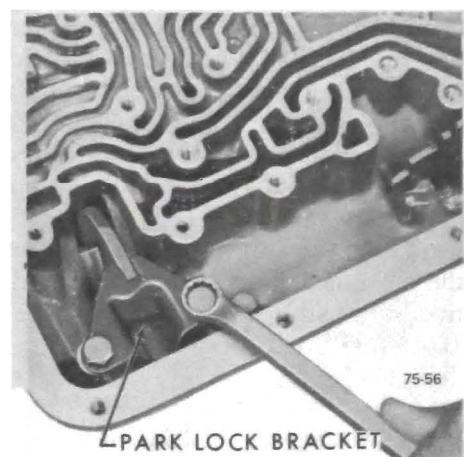

Figure 75-280
5. Install park lock bracket, torque bolts to 29 lb.ft. See Figure 75-280.